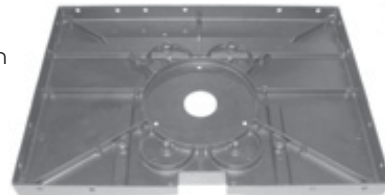
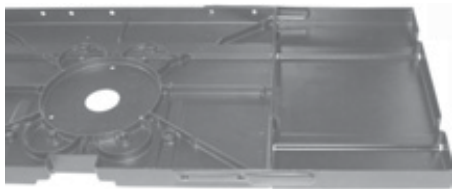

Fig. 1
Fig. 2
- 4.2 Lay the main table top (item 01) upside down on a flat surface, Fig. 1. Position one table top extension (Item 03) as in Fig. 2.